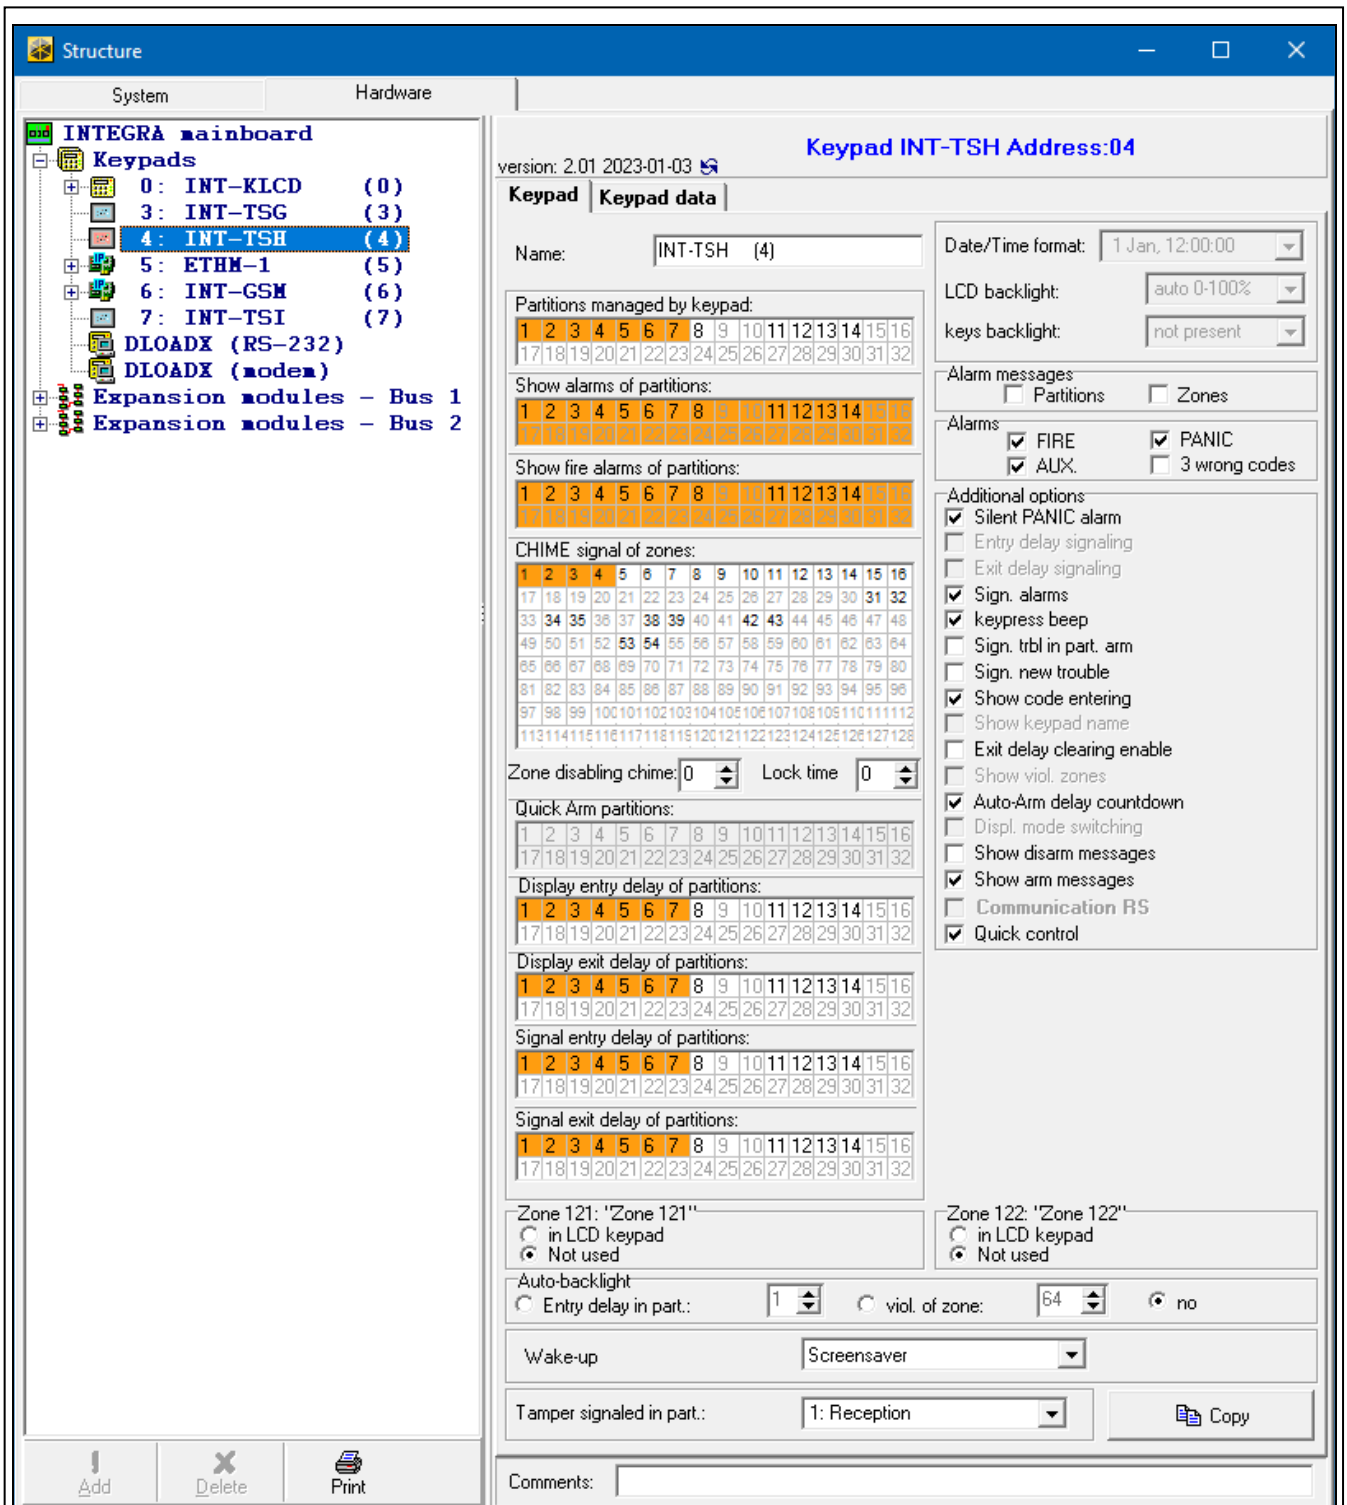

Fig. 13. DLOADX program: keypad in the INTEGRA system – “Keypad” tab (example settings).
- DLOADX program: → "Structure" window → "Hardware" tab → "Keypads" branch → [keypad name] (Fig. 13). Required program version: 1.21.000 (or newer).